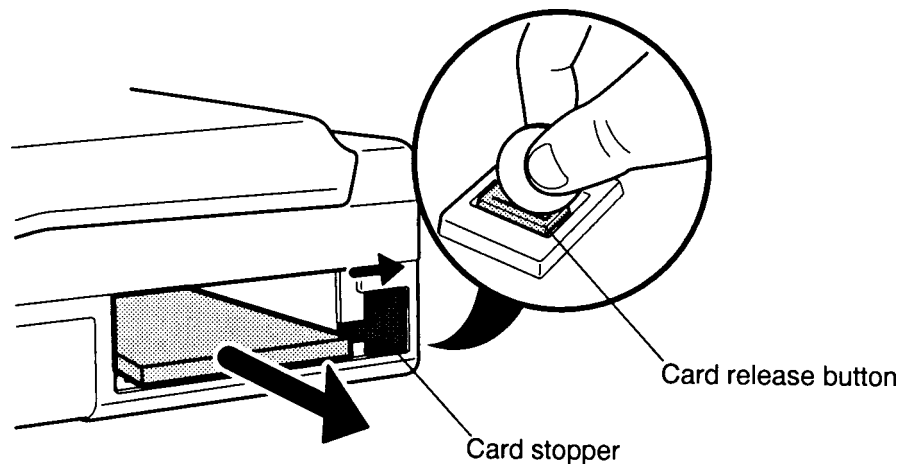

Figure 4-6 Removing the card from PCMCIA card slot 1
6. Push the PCMCIA **card stopper** to the right to release the card, then use a coin or similar object to slide the **card release button** on the bottom of the computer to pop the card slightly out (Figure 4-6).
4. To install a PCMCIA card into PCMCIA card slot 1, carefully insert the card, making sure the card is right side up and the contact surface is inserted first (Figure 4-6).